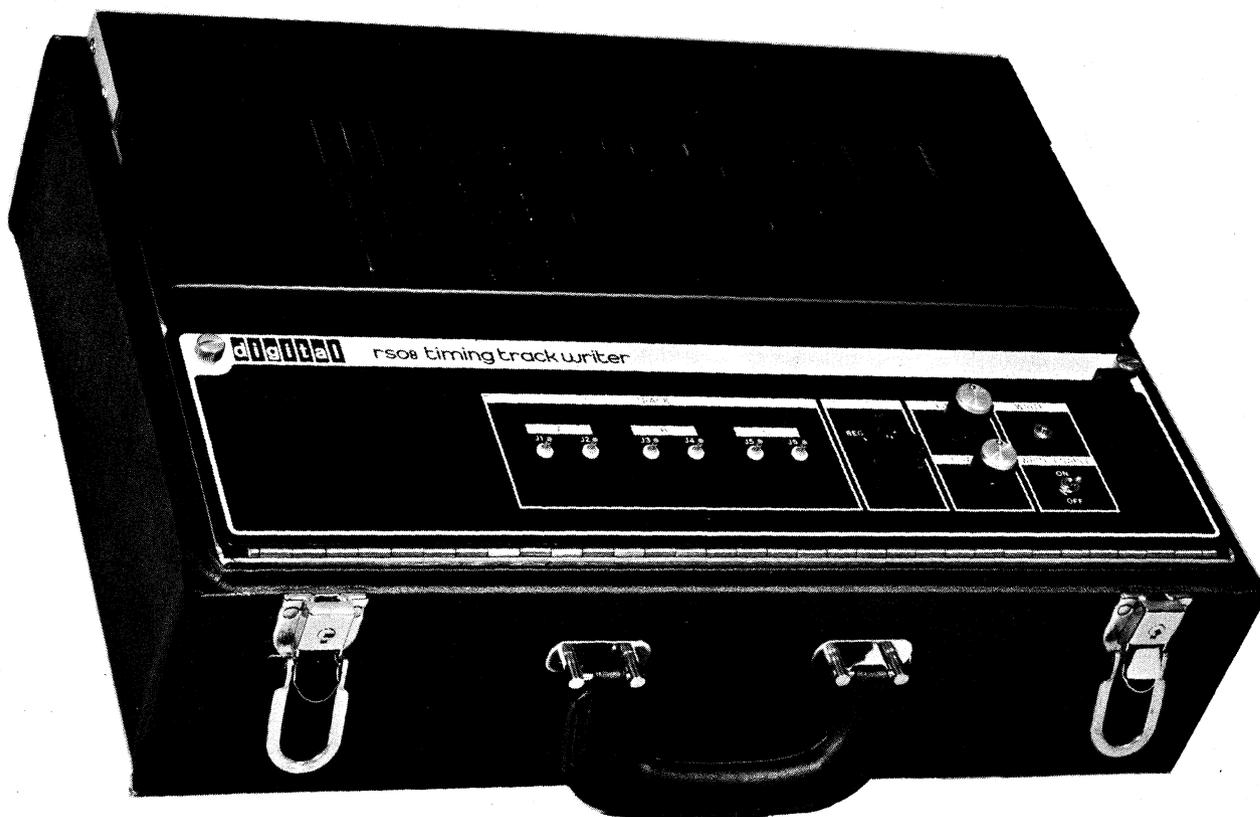

Figure A-1 RS08 Timing Track Writer (RS08-TA)
3. Remove the timing track cable from slot A01 of the RS08 electronics and insert it into the module connector on the RS08 Timing Track Writer (Figure A-1).